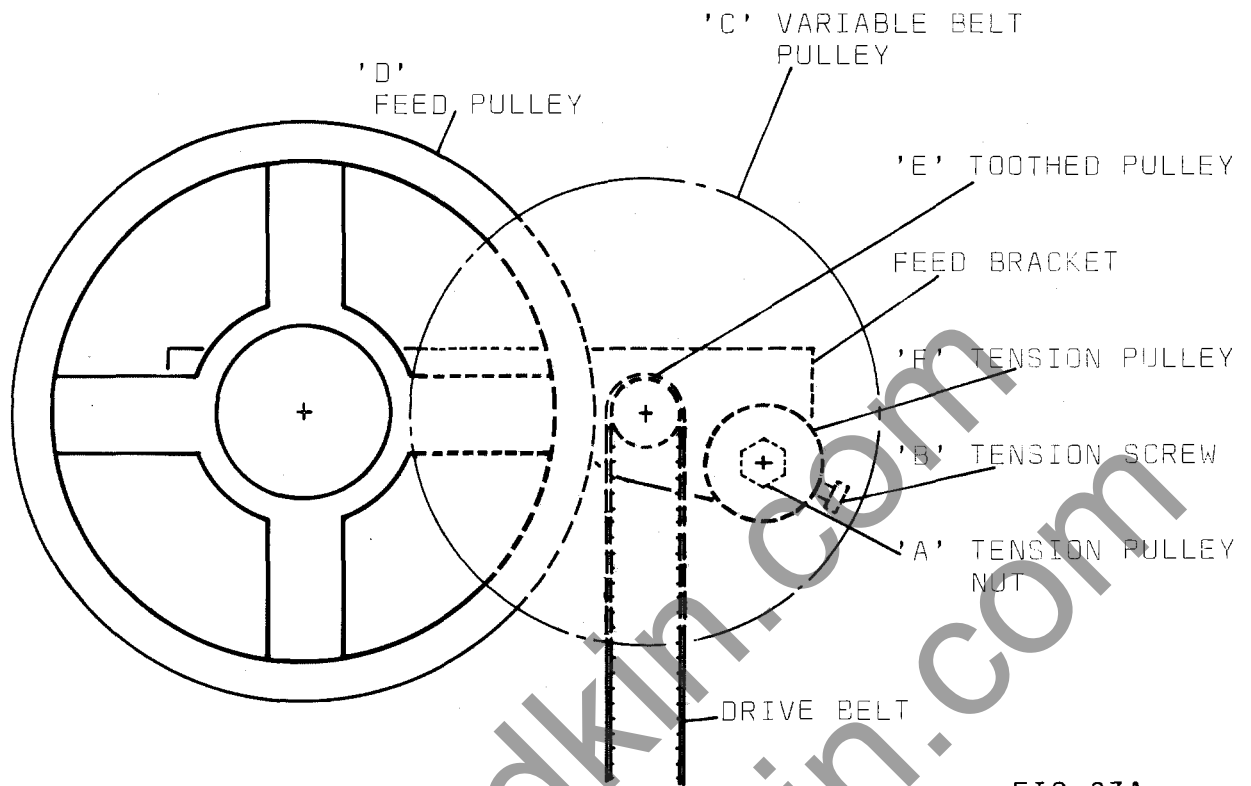

FIG. 23A
- e) Loosen belt tension pulley nut 'A' and tension screw 'B' FIG.23A.
- g) Position new belt between variable pulley 'C' and feed pulley 'D' at the same time turning pulley 'D' until teeth of belt located around teeth of pulley 'E' ensuring that the remainder of belt is hanging vertically FIG.23A.